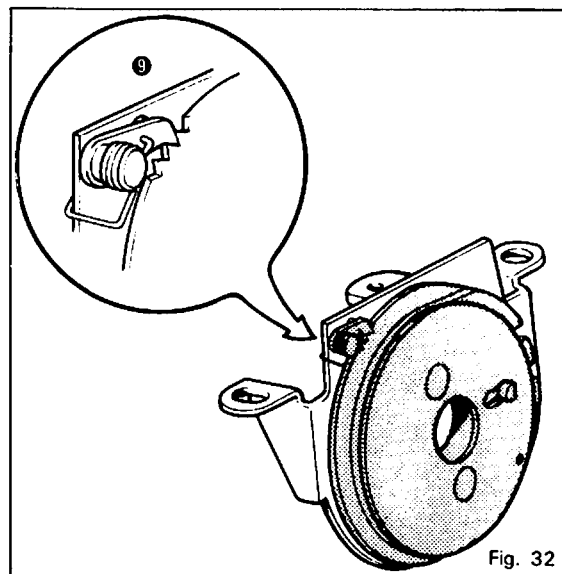

Fig. 32
When fixing stopper guide, firstly fix solenoid temporarily, and fix it onto the bed. Then, bring the needle down to its lowest position and push the stopper with your finger to its fullest extent, and turn the pulley slowly toward you, and make sure that the holder begins to move, stopper drops into the recess portion of holder, pawl ⑨ of ratchet on holder bracket drops into the first or second tooth of knife holder, and stops. (Fig. 32)